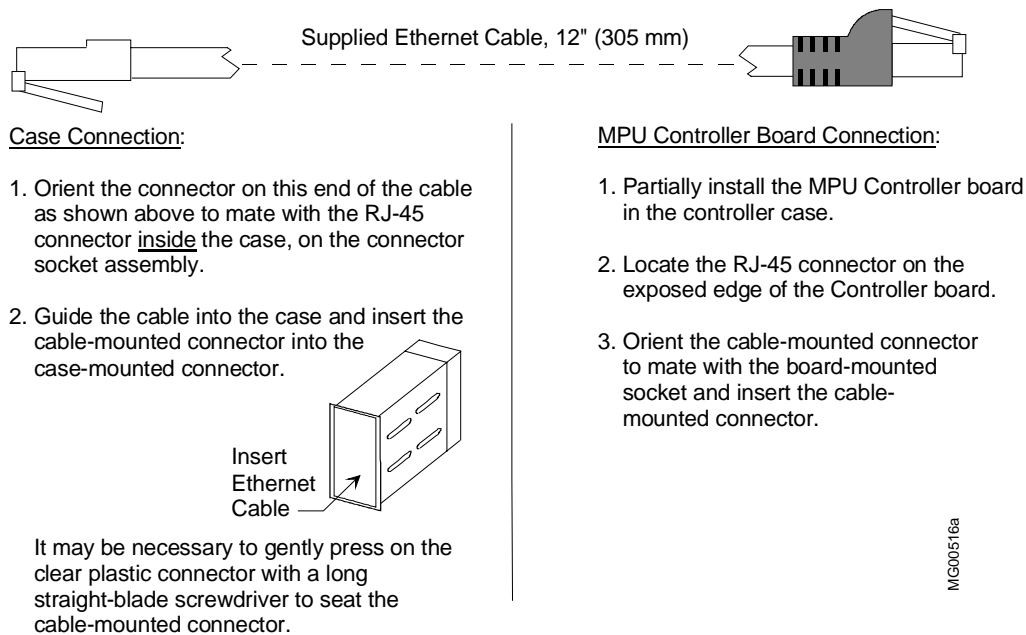

Figure 10-6 Ethernet Cable Installation
Figure 10-6 shows the Ethernet cable.
1. Referring to Figure 10-6, perform the steps under Case Connection to install the cable in the case.
3. In Figure 10-6, refer to the steps under MPU Controller Board Connection to mate the free end of the Ethernet cable with the connector on the MPU Controller board. Dress the cable so that it will not interfere with the Display Assembly.